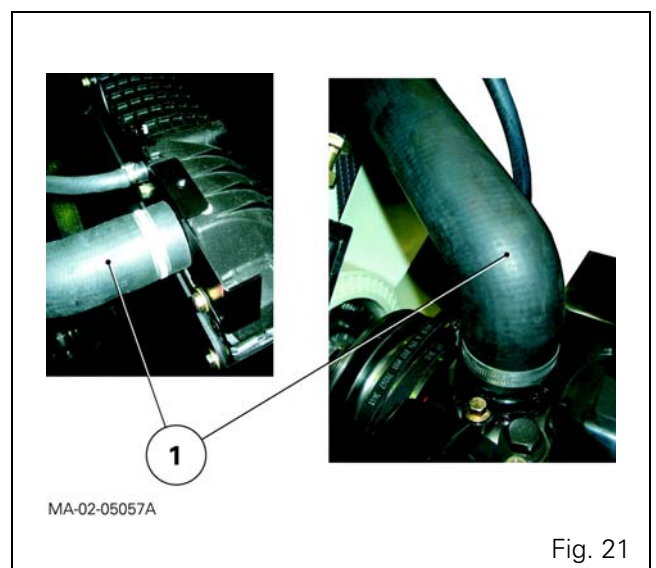

Fig. 21
- 45. Disconnect the upper radiator hose (1) (Fig. 21 ).